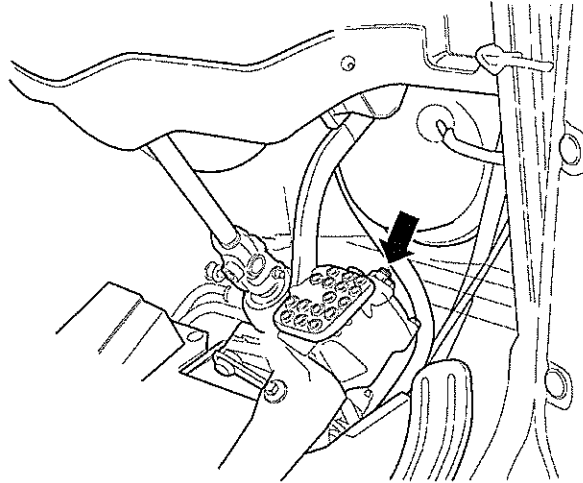

Fig 1 Adjusting steering clearance
- 5.1 Loosen lock nut and screw in adjusting bolt until there is negligible play (see Fig 1).